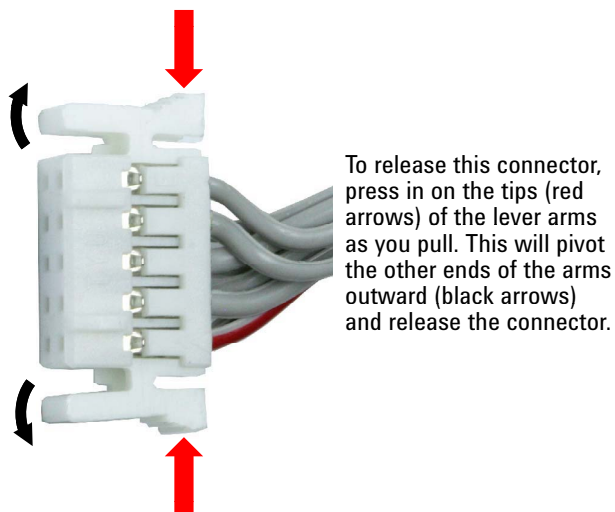

Figure 90 Remove the bottom-most white connector
- 7 Next, remove the white connector shown in Figure 90. This is accomplished by pressing in with your fingers at the points shown below as you pull on the connector.
- b** Next, reconnect the white connector shown in Figure 90. Push firmly to engage. Note that this connector will not make an audible click.